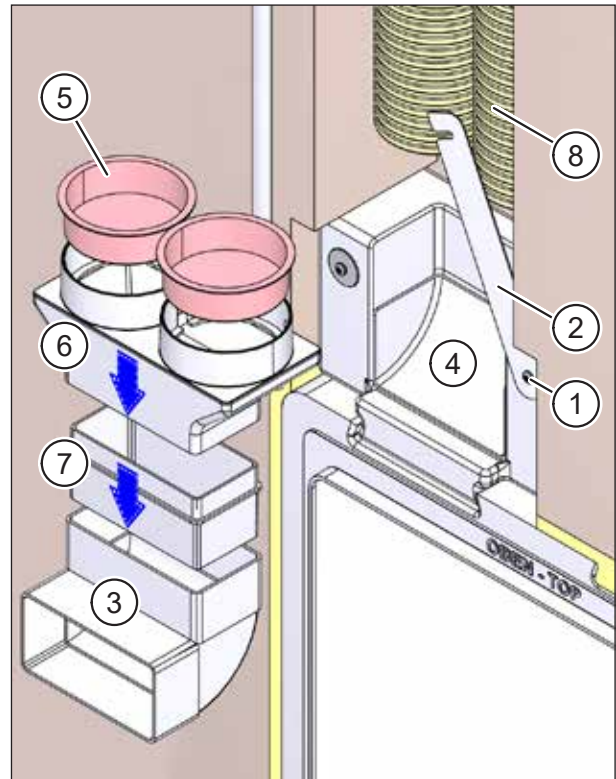

Fig. 27: Joining flexible pipe connectors and cutting flexible pipes to length
- ▶ Loosen the two cross-head screws (item 1 in Fig. 27) and lift up the bar catch (item 2 in Fig. 27).
- ▶ Remove the flat ductwork bend (item 3 in Fig. 27) from the ductwork connection adapter (item 4 in Fig. 27).
- ▶ Remove the red protective cover (item 5 in Fig. 27) from the flexible pipe adapter (item 6 in Fig. 27) M-WRG-FRA75 (part no. 5056-00/75) or M-WRG/FRA63 (part no. 5056-00/63).
- ▶ Insert the fitting adapter M-WRG-FSA lang, part no. 5375-00 (item 7 in Fig. 27) into the flat ductwork bend (item 3 in Fig. 27).
Make sure that you insert the fitting adapter so that the short side points up (see item 7 in Fig. 27).
- ▶ Attach the flexible pipe adapter (item 6 in Fig. 27) to the fitting adapter (item 7 in Fig. 27) and seal the join with a layer of sealing tape 30 mm wide.
- ▶ Insert the assembled flexible pipe connectors (items 3, 6 and 7 in Fig. 27) into the ductwork connection adapter (item 4 in Fig. 27) to test the fit.
- ▶ Shorten the flexible pipes (item 8 in Fig. 27) so that they can be inserted into the flexible pipe adapter (item 6 in Fig. 27).